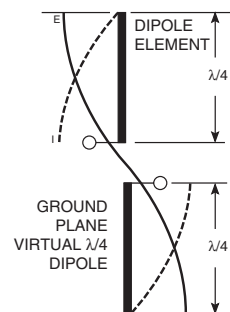

Figure 24: Dipole Antenna
4. In many antenna designs, particularly $\frac{1}{4}$ -wave whips, the ground plane acts as a counterpoise, forming, in essence, a $\frac{1}{2}$ -wave dipole (Figure 24). For this reason, adequate ground plane area is essential. The ground plane can be a metal case or ground-fill areas on a circuit board. Ideally, it should have a surface area less than or equal to the overall length of the $\frac{1}{4}$ -wave radiating element. This is often not practical due to size and configuration constraints. In these instances, a designer must make the best use of the area available to create as much ground